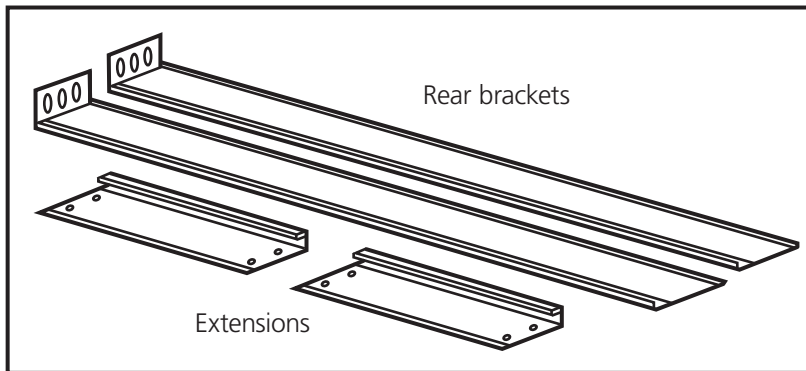
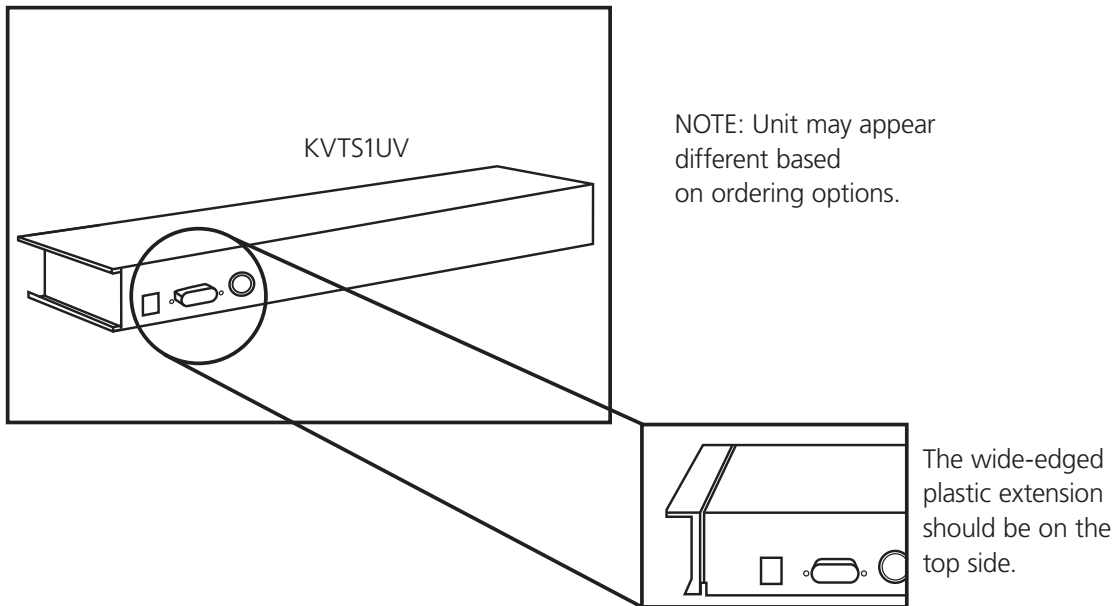

Figure 3-1. Rear brackets and extensions.
Figure 3-5. Back view of module with extensions attached.
2. Using eight counter-sunk screws (included), attach the extensions (included with your ServTray kit) to both sides of the KVM switch module. See Figures 3-1 through 3-5. The wide-edged plastic extension should be on the top side (see Figure 3-5).